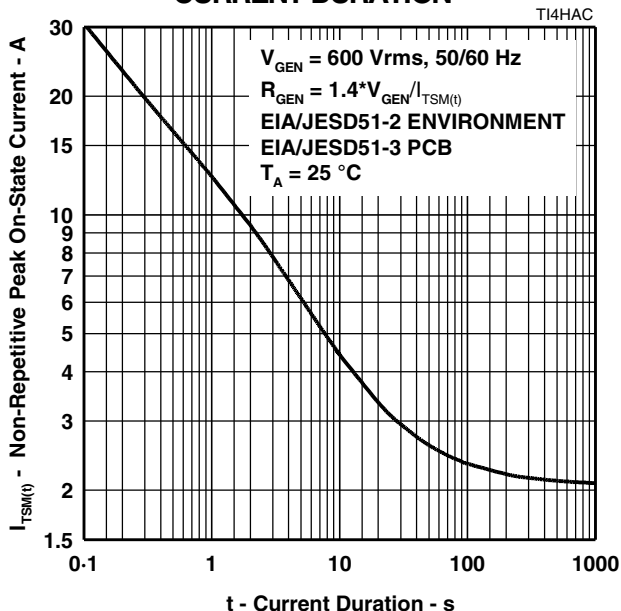

Figure 8.
5. EIA/JESD51-2 environment and EIA/JESD51-3 PCB with standard footprint dimensions connected with 5 A rated printed wiring track widths. See Figure 8 for the current ratings at other durations. Derate current values at $-0.61\% / ^\circ\text{C}$ for ambient temperatures above 25°C
The protector can withstand currents applied for times not exceeding those shown in Figure 8. Currents that exceed these times must be terminated or reduced to avoid protector failure. Fuses, PTC (Positive Temperature Coefficient) resistors and fusible resistors are overcurrent protection devices which can be used to reduce the current flow. Protective fuses may range from a few hundred milliamperes to one ampere. In some cases it may be necessary to add some extra series resistance to prevent the fuse opening during impulse testing. The current versus time characteristic of the overcurrent protector must be below the line shown in Figure 8. In some cases there may be a further time limit imposed by the test standard (e.g. UL 1459 wiring simulator failure).